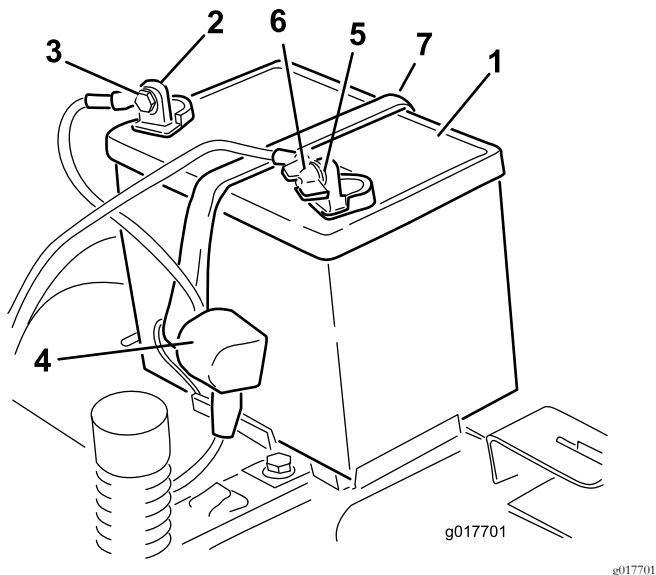

Figure 41
4. Disconnect the negative (black) ground cable from the battery post (Figure 41).
6. Disconnect the positive (red) cable from the battery post (Figure 41).
7. Remove the battery hold-down (Figure 41), and lift the battery from the battery tray.
1. Position the battery in the tray (Figure 41).
5. Secure the battery with the hold-down (Figure 41).